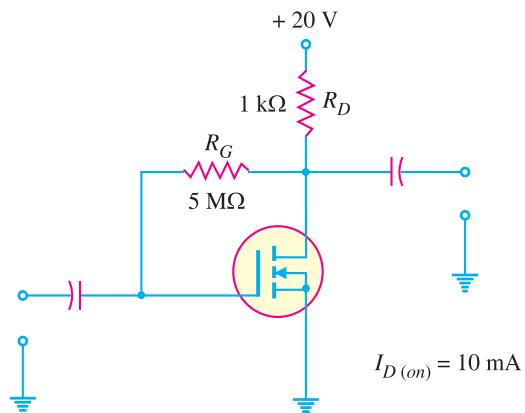

Fig. 19.62
**Example 19.37.** Determine the values of  $I_D$  and  $V_{DS}$  for the circuit shown in Fig. 19.62. The data sheet for this particular MOSFET gives  $I_{D(on)} = 10 \text{ mA}$  when  $V_{GS} = V_{DS}$ .